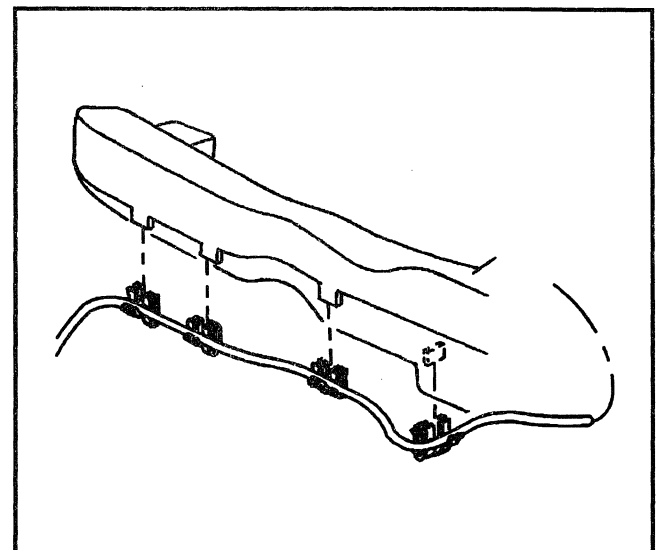

Figure 21—Antenna Extension Cable Routing to HVAC Duct
3. Extension cable from HVAC duct (Figure 21).
- 2. Extension cable to HVAC duct (Figure 21).